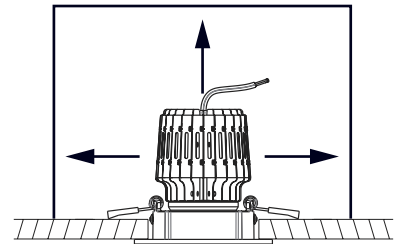

FIG. 1
4. Open the driver box and remove the appropriate knockouts. (Fig. 1)